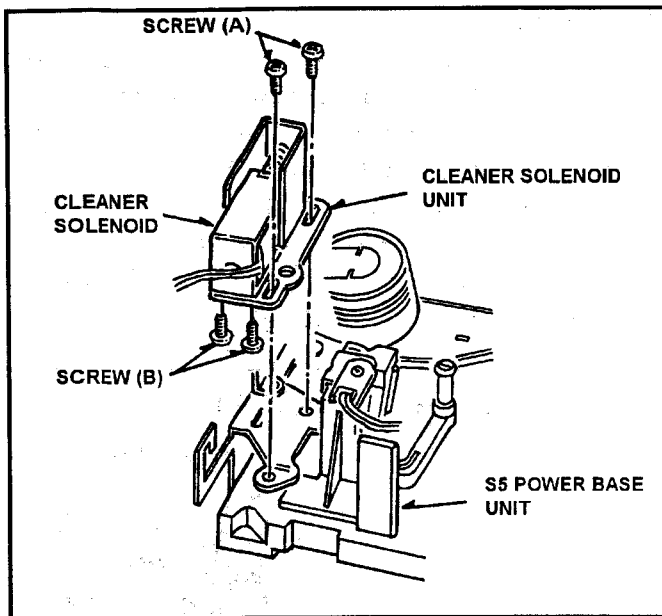

Fig. 8-13-1 Removal of Cleaner Solenoid
4. Unscrew the **2 screws (A)** and remove the Cleaner Solenoid Unit as shown in Figure 8-13-1.